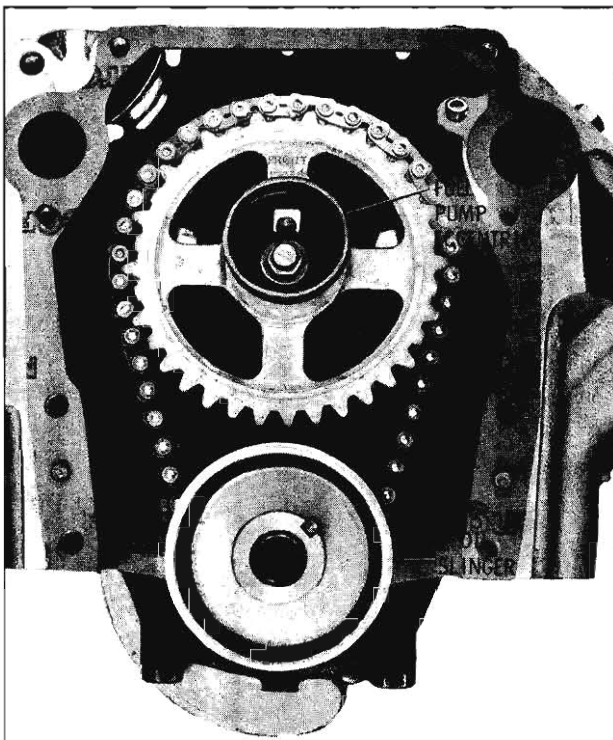

Fig. 3-444 Fuel Pump Eccentric
2. Install fuel pump eccentric with flat side rearward. (Fig. 3-444)
3. Install oil slinger. (Fig. 3-444)